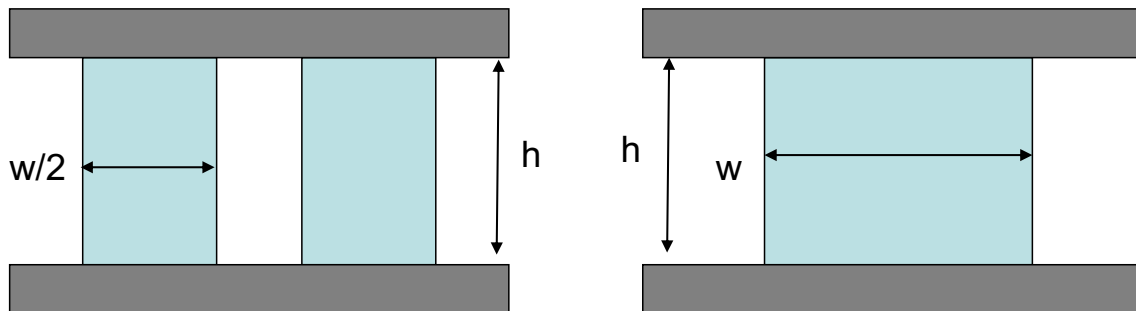

Fig. 1. Dimensions of the blocks for forging
1. Find the expression of the average forging pressure and forging force for plane strain forging of blocks having initial height h to a final height of $h/2$. There are two cases shown in the Fig.1. Assume all sliding conditions and coefficient of friction as μ . Also check the results with approximate average pressure formula for pure sliding. Which one is higher? Please provide a physical explanation.